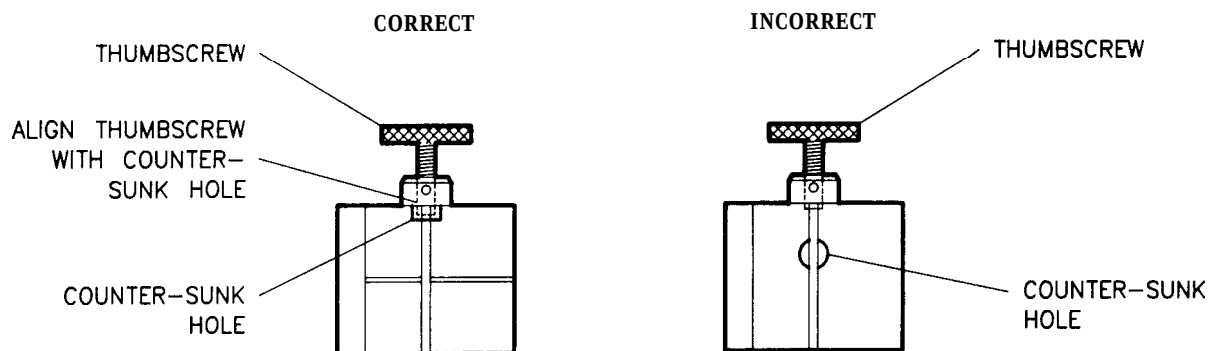

Figure 3-9. Aligning the Thumbscrew With the Counter-bored Hole
5. See Figure 3-9. Make sure that the thumbscrew is aligned with the counter-sunk hole in the clamp body. Push the clamp toward the test set front panel and then tighten the thumbscrew with your fingers. The cable cannot be damaged by tightening the thumbscrew too tightly.